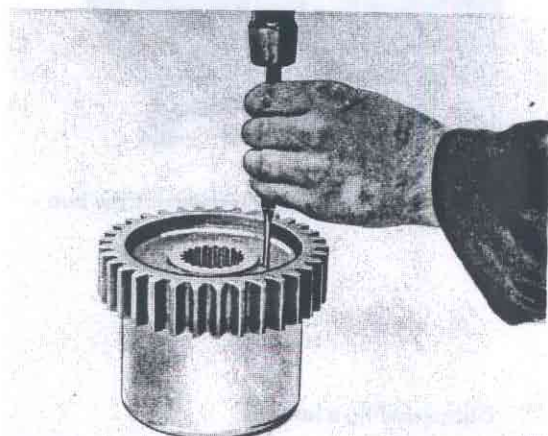

Fig. 77-12. Removing the inner bearing inner ring
5. Tap off the inner bearing inner ring with a 6 mm (1/4") drift, see Fig. 77-12.